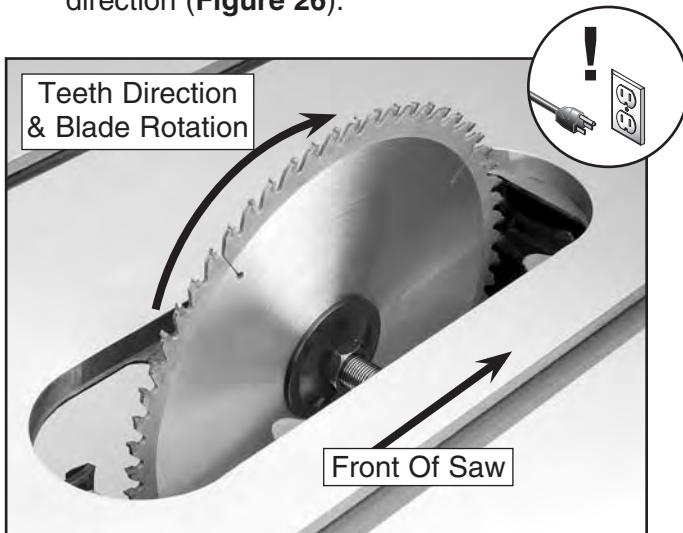

Figure 26. Correct blade direction.
- Slide the blade over the arbor. **Note:** Make sure the teeth are pointing in the correct direction (**Figure 26**).